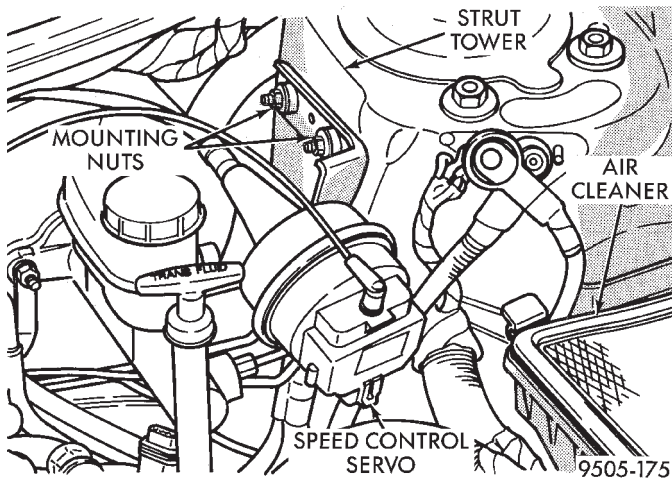

Fig. 70 Speed Control Servo Attachment To Strut Tower
(7) If equipped, remove the vehicle's wiring harness connector from the speed control servo. Remove the 2 speed control servo mounting bracket to strut tower attaching nuts (Fig. 70). Without removing speed control cable from servo, move speed control servo out of the way.
- (12) If equipped, install speed control servo on the mounting studs in the left strut tower (Fig. 70). Install the 2 speed control servo bracket mounting nuts (Fig. 70). Tighten the 2 mounting nuts to a torque of 6 N·m (55 in. lbs.). Install electrical connector on speed control servo.